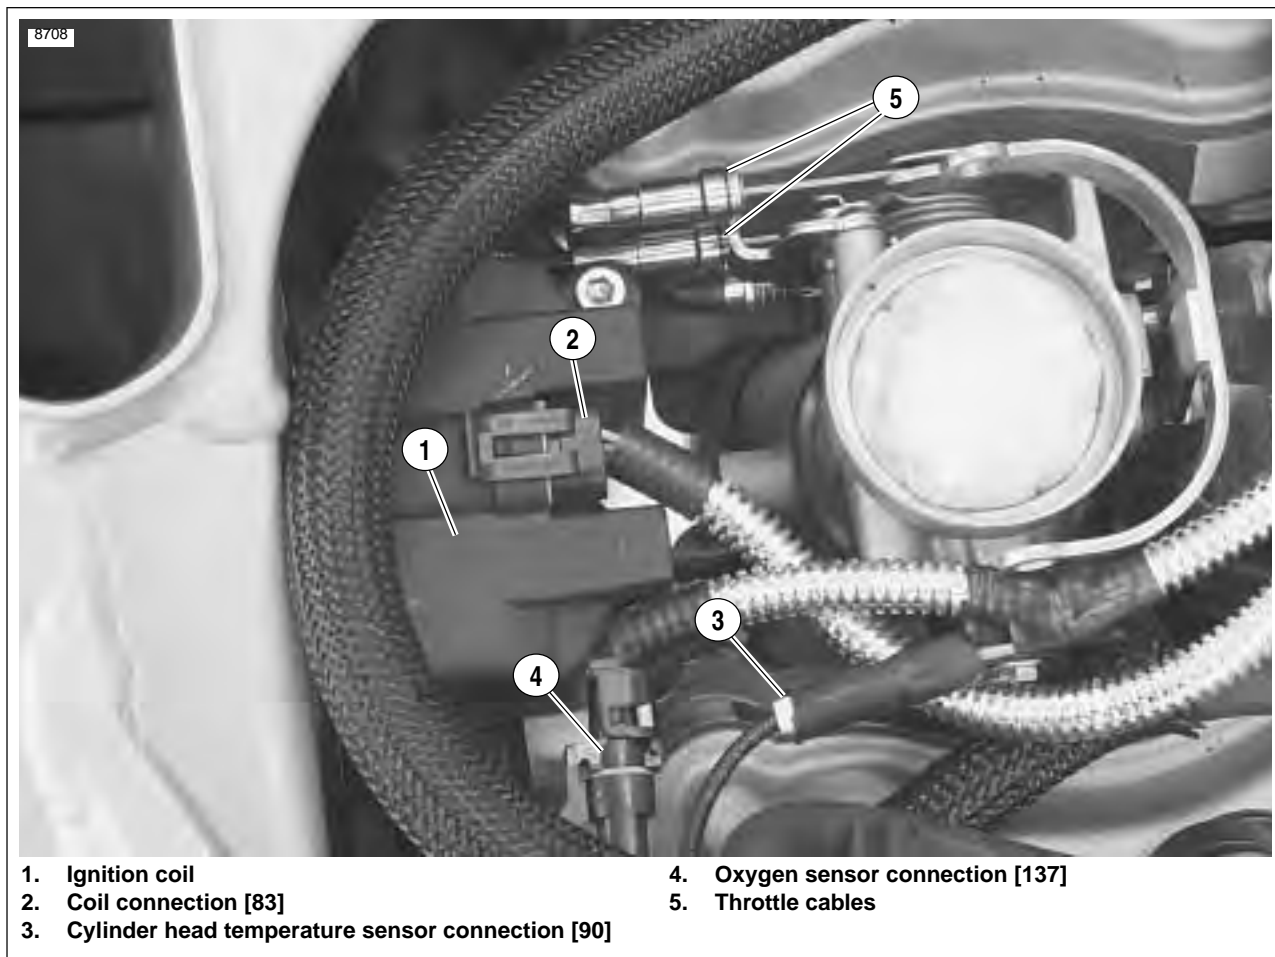

Figure 3-14. Electrical Connections and Throttle Cables
15. See Figure 3-14. Connect throttle cables from induction module/throttle body.
17. See Figure 3-14. Install the ignition coil and connect [83] and tighten fasteners to 120-144 **in-lbs** (13.6-16.3 Nm).